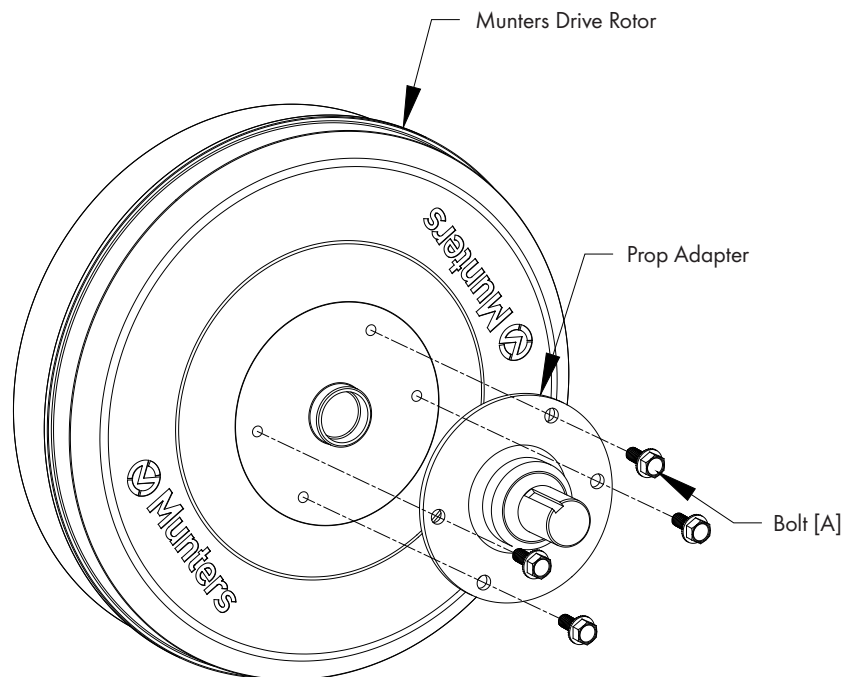

Figure 19
Attach the Prop Adapter removed in previous step to new Munters Drive Rotor using (4) Bolts [A]. Tighten Bolts to 60 in-lbs. [6.8 Nm] of torque. See Figure 19.